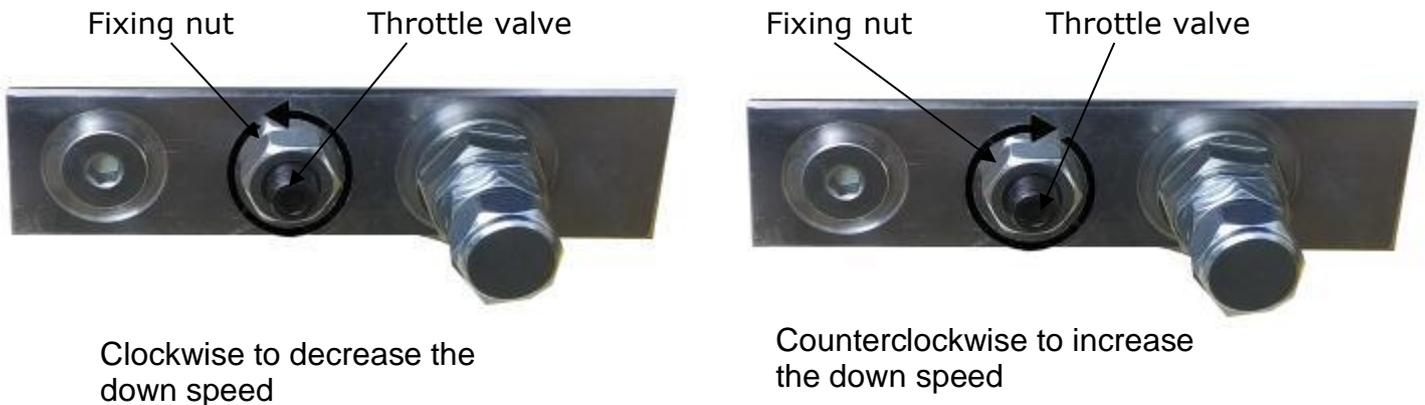

Fig.28
1. Adjust the lower speed (See Fig.28)